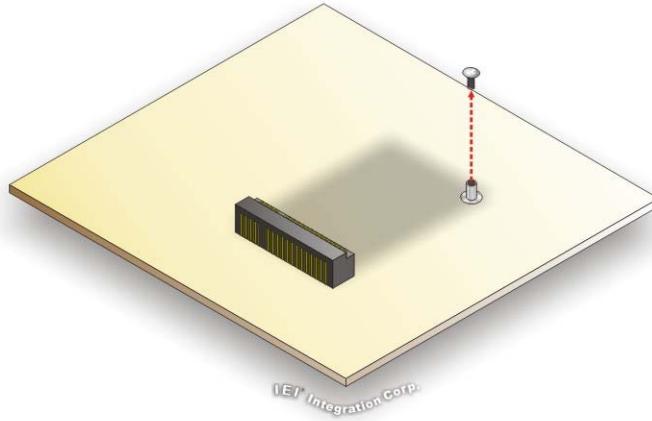

Figure 4-2: PCIe Mini Card Retention Screw Removal
- Step 1:** Locate the PCIe Mini card slot. Remove the preinstalled retention screw on the screw pillar of the PCIe Mini card slot as shown in **(Figure 4-2)**.